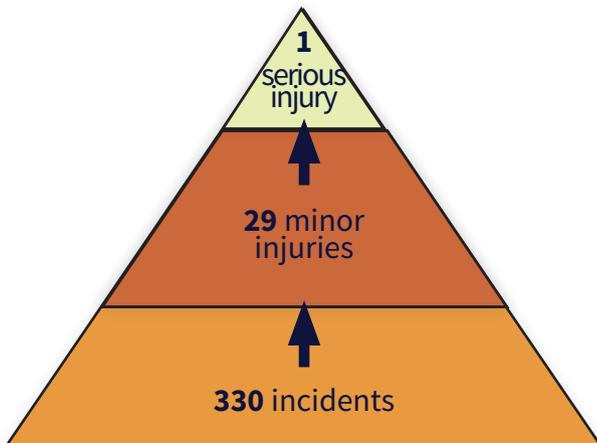

Figure 1: Heinrich's accident pyramid
**T**he safety pyramid was first proposed by H.W. Heinrich, whose 1931 book, "Industrial Accident Prevention: A Scientific Approach," stated that 88 percent of accidents are caused by "unsafe acts of persons" and put forth what is often referred to as Heinrich's accident pyramid. It illustrates that of 330 accidents in the workplace, 300 will result in no injuries, 29 will result in minor injuries and one will result in a major injury. This is shown graphically in Figure 1.